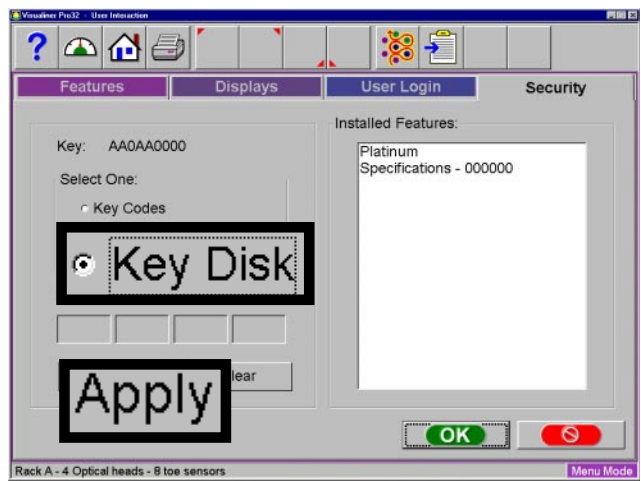

Figure 3-31
4. From the Security Menu select the “**KEY DISK**” radio button. Insert the “**PLATINUM KEY DISK**” into the floppy drive and select **<APPLY>**. Once the “Key Disk” has been loaded the disk is branded rendering it useless for installations on other units. Store the disk in the cabinet for future installations for this unit only. (Figure 3-31)